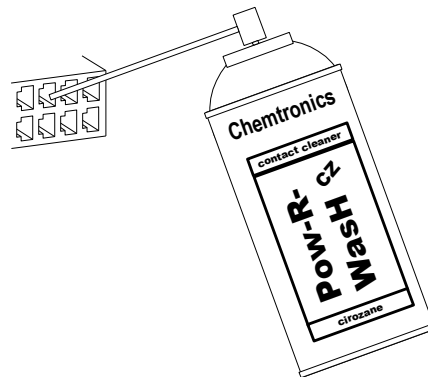

Figure 1
3. **Clean** each terminal using Chemtronics® contact cleaner "Pow-R-Wash CZ " as shown in Figure 1.